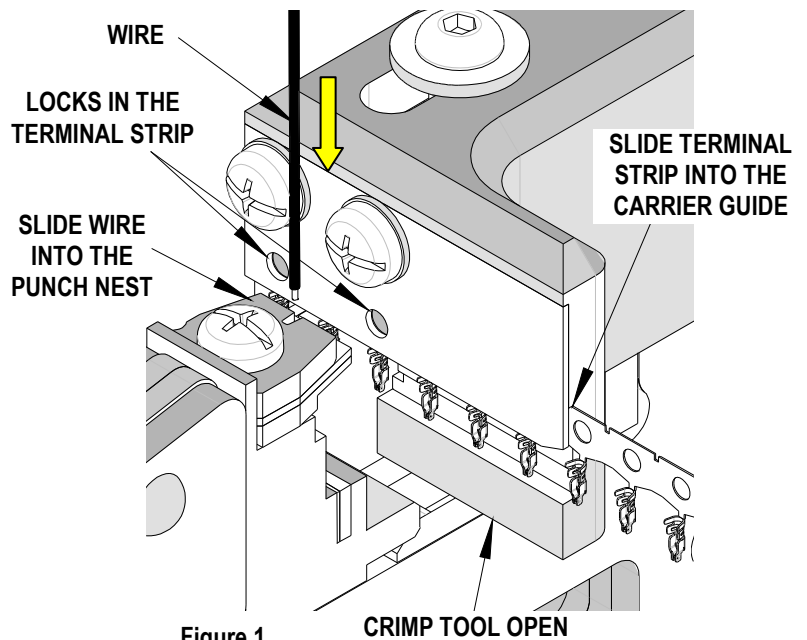

Figure 1
3. Push the strip in until it locks into the (2) detent in the carrier guide and a terminal is centered with the punch nest. See Figure 1.